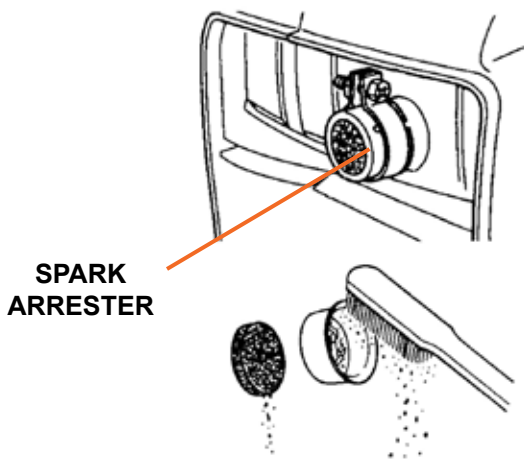

Figure 13
3. Remove the carbon deposits on the muffler screen and spark arrester using a wire brush (see Figure 13).